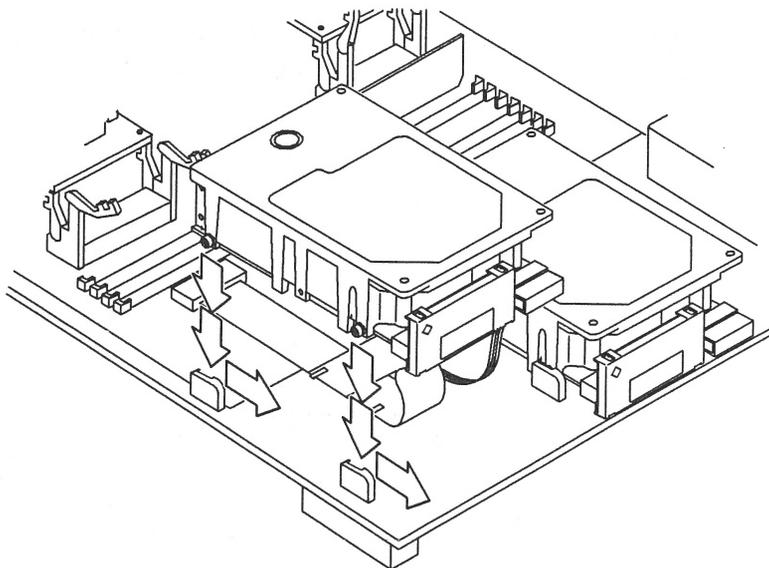

Figure 3-13 Seating the Drive Into the Drive Mounts
6. Lower the drive into the chassis, align the four grommets onto the drive mounts, and firmly seat the grommets by moving the drive forward towards the connectors. Refer to Figure 3-13.